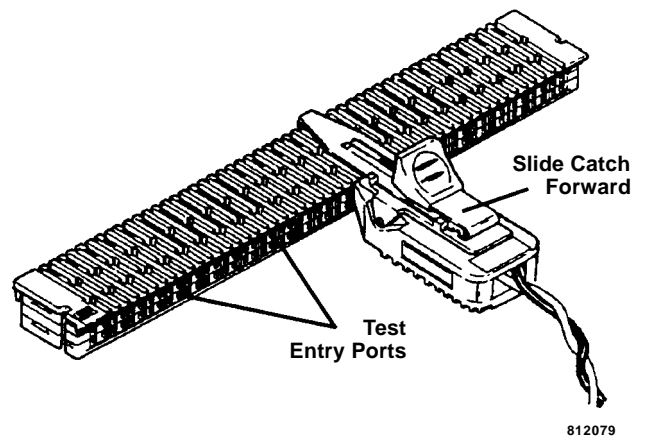

Figure 2 - Pair Test Plug inserted into module.
1. Insert pins of plug into test entry port in mid-level of module; the longer pin goes into the right (RING) member. See Figure 2.